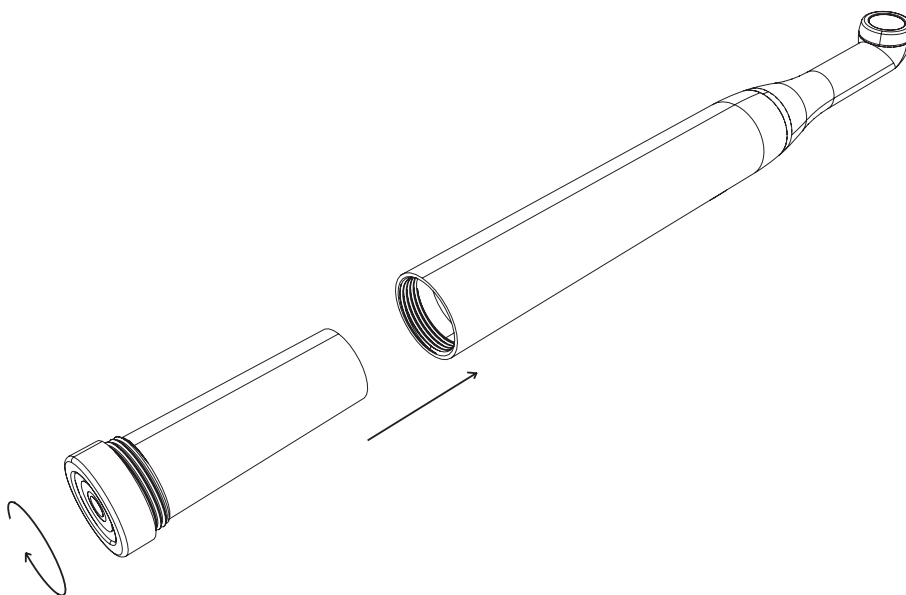

Fig. 6
- 3 Connect the battery module to the handpiece by tightening the nut of the battery module to the handpiece as shown in Fig.6.
To replace the faulty battery, unscrew the nut of the battery module, remove it and replace it with a new one (Fig.6).